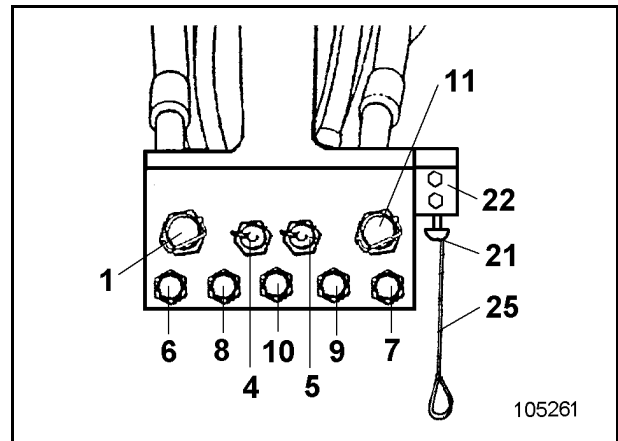

Fig. 3-48:
- Fuel can also be filled into both fuel tanks through the service station (1, Fig. 3-48:).